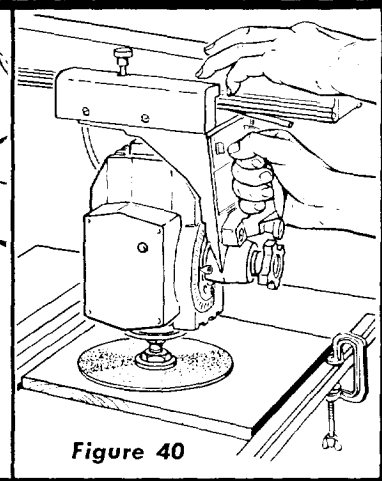

Figure 40
Using the sanding disc, mounted on motor shaft, the saw may be converted into a sander that will operate in any position. (See figure 40.)
3. When sanding the table top or routing with the work stationary, the arm latch handle may be prevented from automatically indexing by raising it to the vertical position. (See figure 40.)